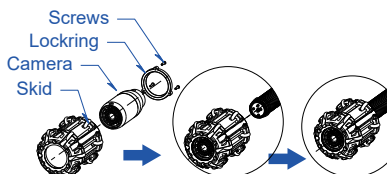

Figure 13. 72 Roller skid
- 1)Install 72 Roller Skid.(See Figure 13)